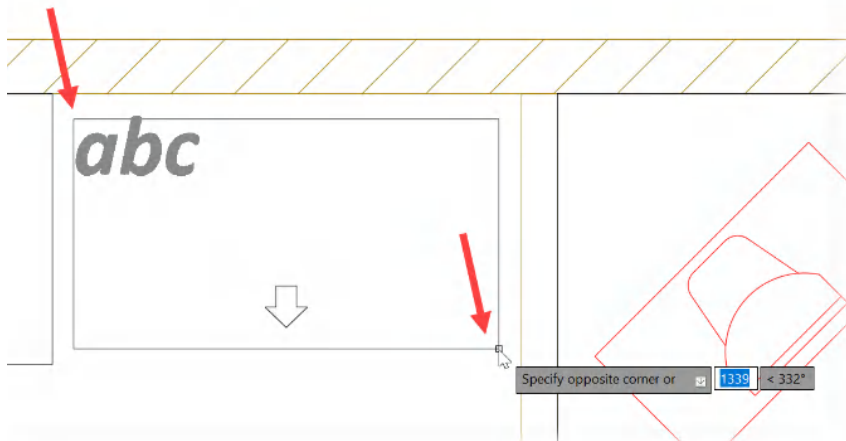

Figure 8.21: The Multiline Text area with the text preview displayed
6. You will be prompted to place a rectangular area for the **Multiline Text (MTEXT)**. Click the two points indicated in *Figure 8.21* in the top-right corner of the **Executive Office**. This will then create an area in which to place your text. Note the preview of your text style at this point (indicated by **abc** in the **Multiline Text** area being placed).